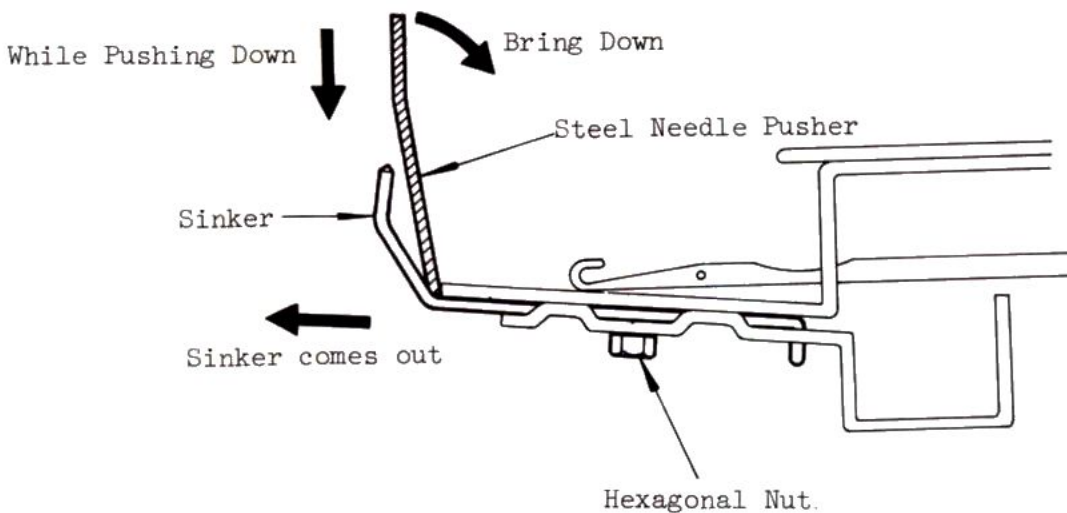

Fig. 27
2. Insert a 1 m/m thick steel plate or a metal Needle Pusher between the front edge of the Needle Bed and the sinkers as shown in Fig. 27, with the steel plate kept pressed downwards, bring it down in the arrow-marked direction and the sinkers can be moved forwards. Repeat the above method for correct alignment of the sinkers.